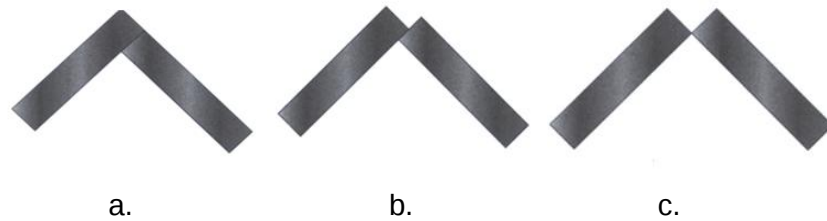

Fig. 2
- (c) Examine and name the joint designs in **Fig. 2**:-